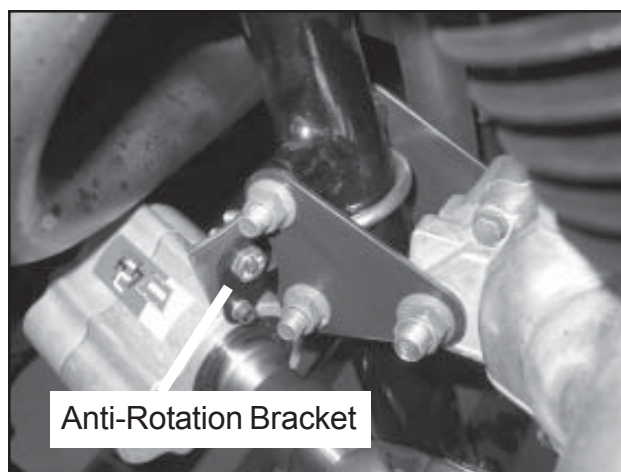
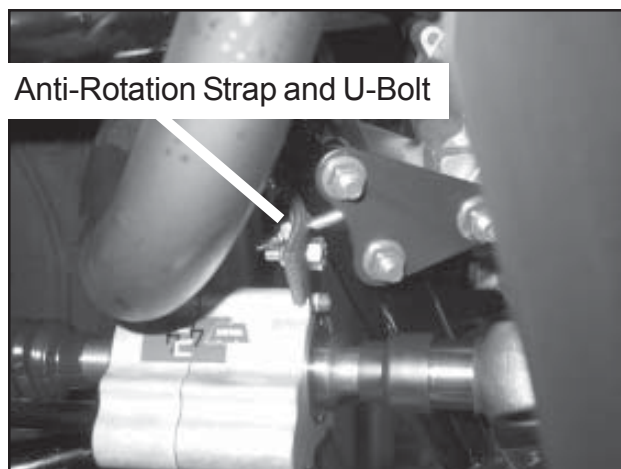

Figure 9 Anti-Rotation Hardware
Figure 10 Anti-Rotation Hardware
6. Using a 5/64" allen wrench, attach the anti-rotation bracket to the 424 Select using the 8-32 screw and lockwasher, **Figure 9**. **Do not tighten at this point.** Attach the anti-rotation strap to this bracket using the 1/4–20 bolt, fender washer and lock nut. Attach anti-rotation strap to frame using 1/4" – 20 U-bolt, washers and lock nut provided in kit **Figure 9** and **Figure 10**.